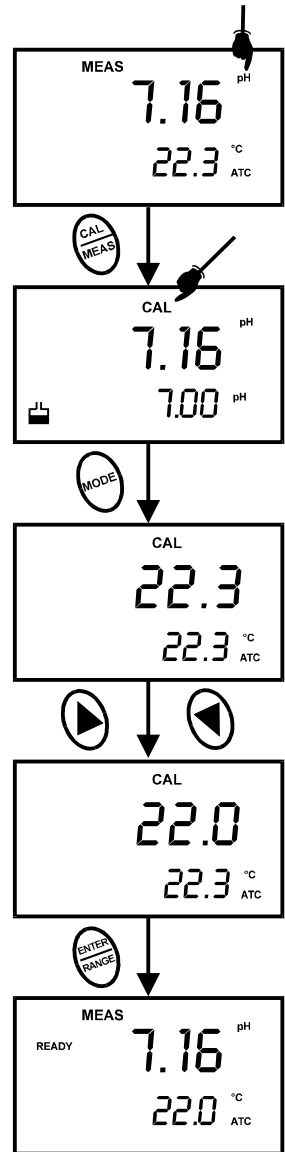

Figure 11 - Temperature Calibration in pH Mode
7. Once you have selected the correct temperature press the **ENTER** key. The meter automatically returns to pH measurement mode. See Figure 11.